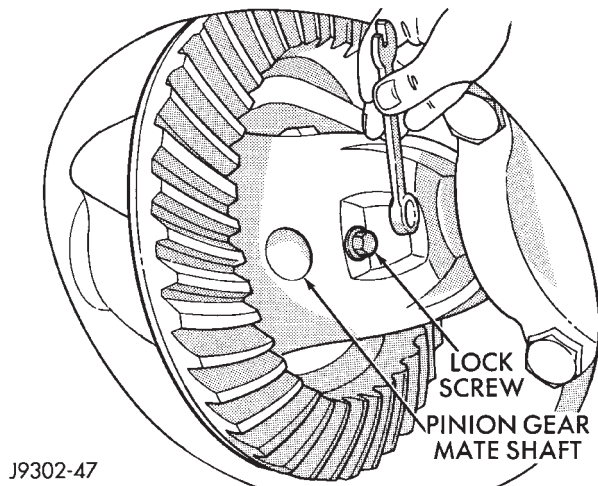
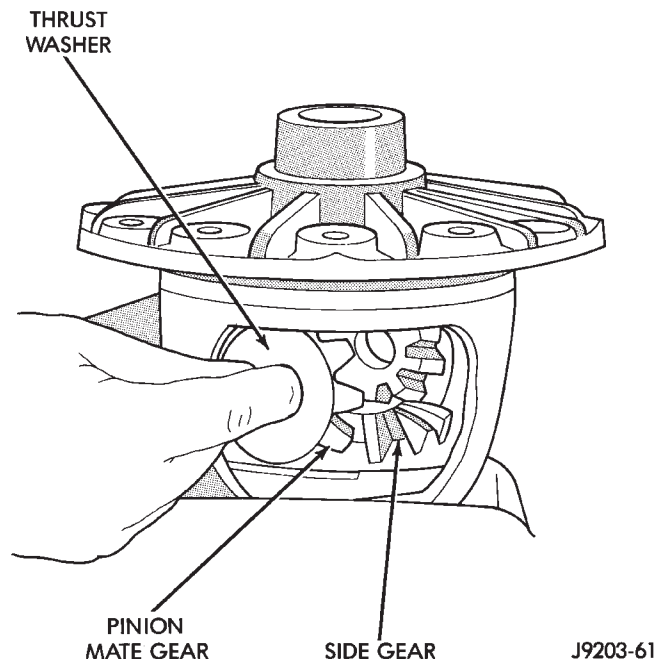

Fig. 51 Pinion Gear Mate Shaft Lock Screw
Fig. 52 Pinion Mate Gear Removal
(1) Remove pinion gear mate shaft lock screw (Fig. 51).
(2) Remove pinion gear mate shaft.
(3) Rotate the differential side gears and remove the pinion mate gears and thrust washers (Fig. 52).
(4) Remove the differential side gears and thrust washers.